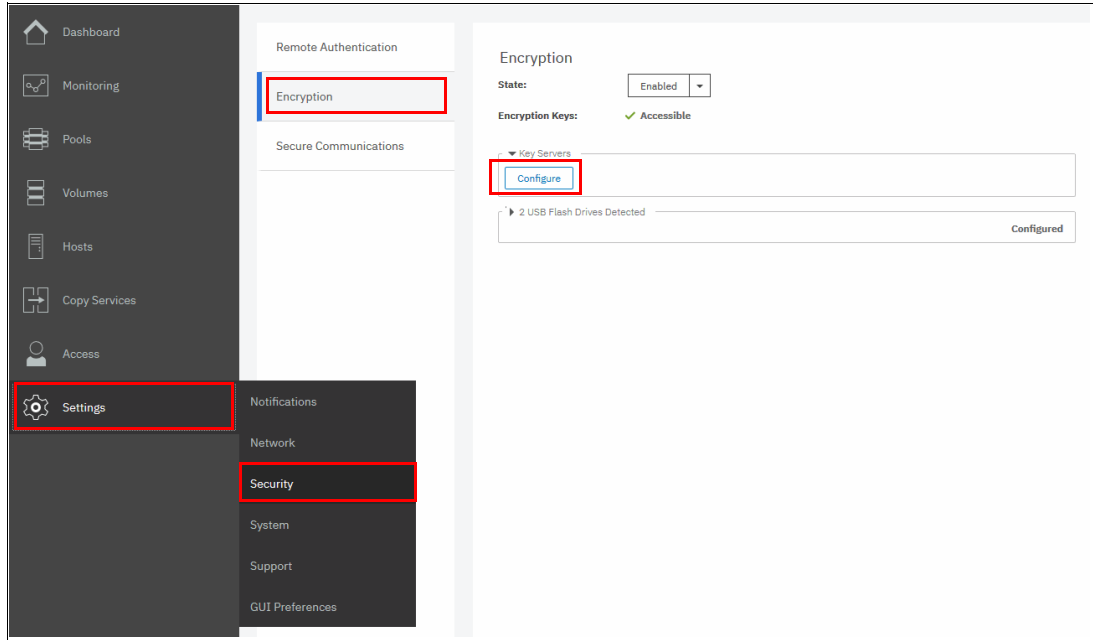

Figure 13-57 Enable key servers as a second provider
1. Click **Settings** → **Security** → **Encryption**, expand the Key Servers section and then, click **Configure**, as shown in Figure 13-57. To enable key server as a second provider, the system must detect at least one USB flash drive with a current copy of the master access key.